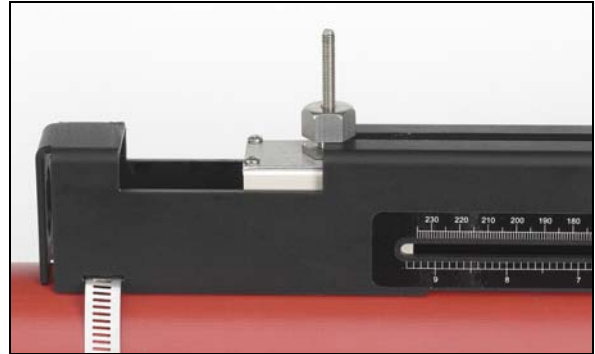

Figure 2.9
9. Following the method used to insert the downstream transducer, carefully lower the downstream assembly through the rectangular opening until the slots in the side of the transducer clamp align with the edges on the top of the guide rail (Figure 2.9).